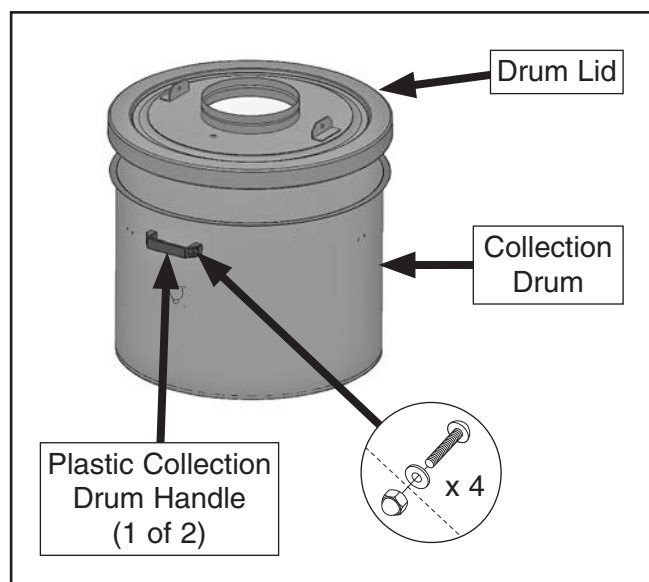

Figure 26. Drum lid and handles installed on collection drum.
27. Attach (2) plastic collection drum handles to collection drum with (4) $\frac{5}{16}$ "-18 x $\frac{3}{4}$ " Phillips head screws, $\frac{5}{16}$ " fender washers, and $\frac{5}{16}$ "-18 acorn nuts (see **Figure 26**).
29. Place collection drum lid on top of collection drum (see **Figure 26**).